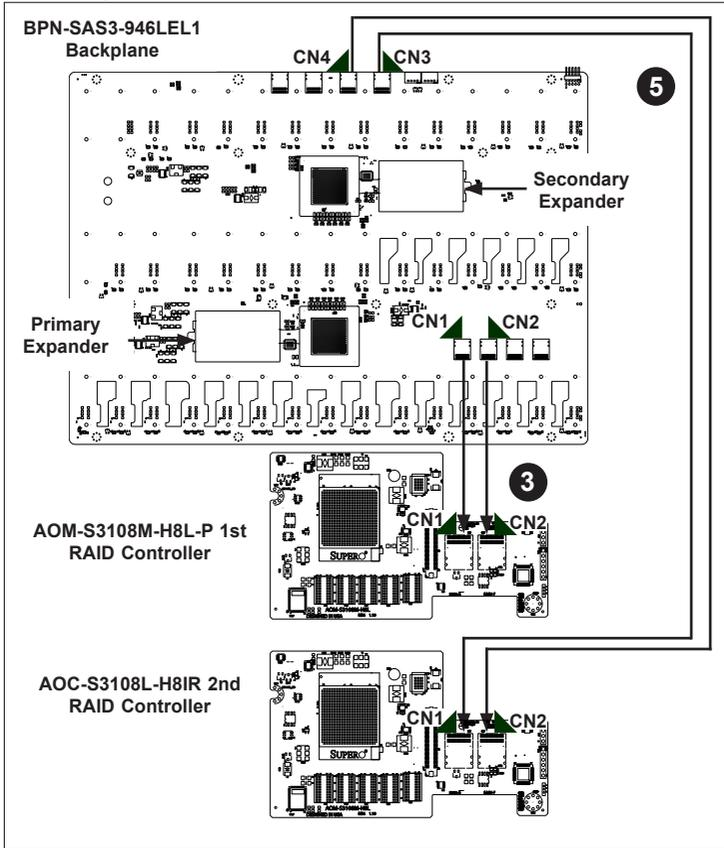

Figure 3-4. Backplane Cascading Configuration
3. Plug the cables into connectors CN1 and CN2, then route them to connectors CN1 and CN2 on the underside of the AOM-S3108M-H8L-P RAID controller card located within the same server as the backplane, as illustrated in Figure 3-4.
5. Connect the cables to CN3 and CN4, then route them to CN1 and CN2 on the underside of the AOC-S3108L-H8IR RAID controller card in the same server, as illustrated in Figure 3-4.